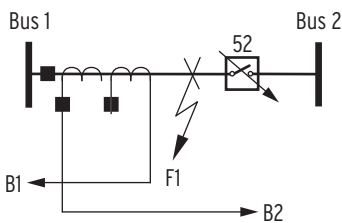

Figure 14 A Single CT With Two CT Cores Configured in Overlap
- A single CT with two cores configured in overlap (Figure 14)
Configure any one of these schemes without using external auxiliary relays. Figure 13 and Figure 14 also show the tie breaker closing onto an existing fault, F1. The SEL-487B includes tie-breaker logic to prevent the loss of both zones for this fault.